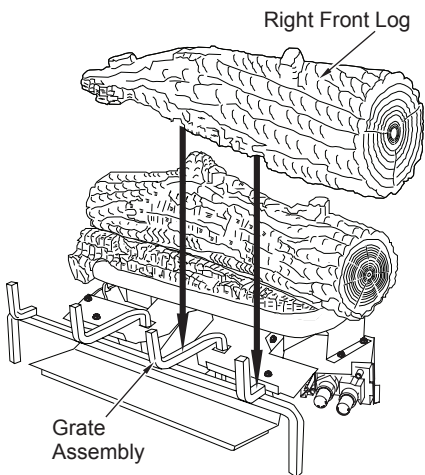

**Figure 57 - Installing Rear Log**
2. Place the rear log on the base assembly as shown in Figure 57. The rear log has grooves in the bottom which will allow the log to sit on the burner and behind the bottom ember log